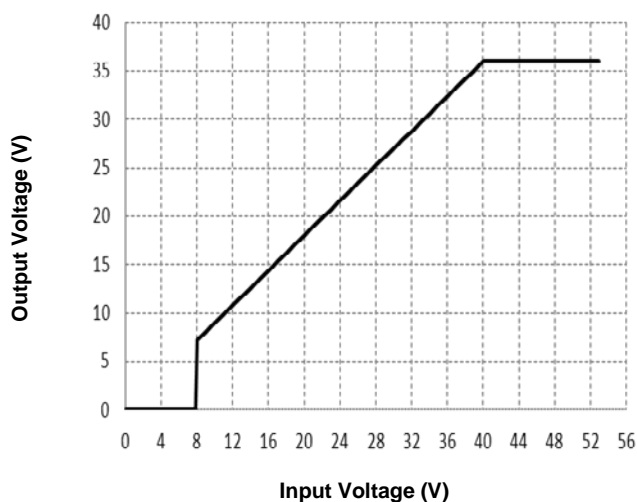

Figure 5. Output vs. Input Operating Range
* For the availability of other preset output voltages, consult with the factory. The output voltage needs to be lower than at least 90% of the input voltage to maintain proper output regulation, see Figure 5.